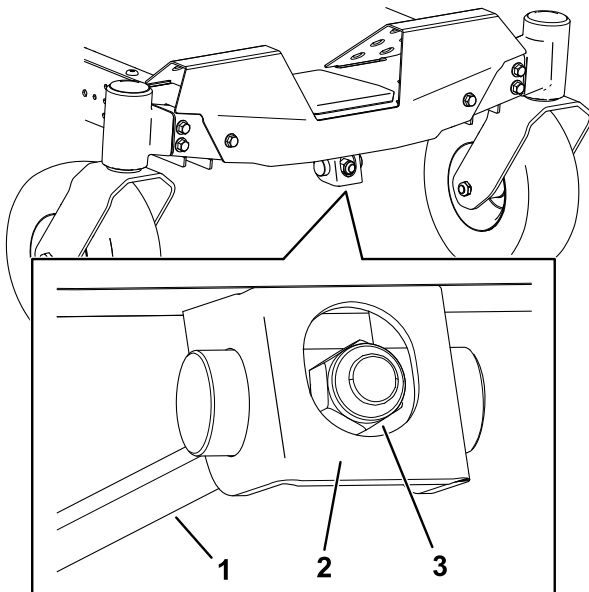

Figure 71
1. Rotate the adjustment nut in the front of the mower (Figure 71).